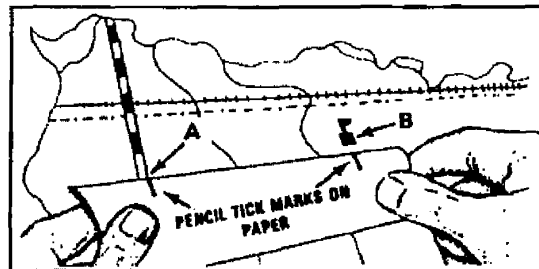

Figure C-28. Measuring distance
- (1) Line up the straight edge of a strip of paper with the beginning and ending points on the map.
- (2) Mark on the straight edge of the paper the beginning and ending points (figure C-28).
- (2) Mark the beginning and ending points on the straight edge of the paper (figure C-28).
- (3) Place the starting point on the paper under the zero on the bar scale.
- (4) Measure off 4,000 meters and place a new tick mark on the paper.
- (5) Place the new tick mark under the zero on the bar scale.
- (6) Determine if the end point falls within the bar scale.
- (7) Determine if the end point does not fall within the bar.
- (a) Repeat steps 2b(4) and (5) until the end point falls within the bar.
3. Convert a road map distance to miles, meters, or yards using the map's bar scale (figure C-28). This is the actual distance you have to travel to reach the point whose straight line distance you identified in step 2.